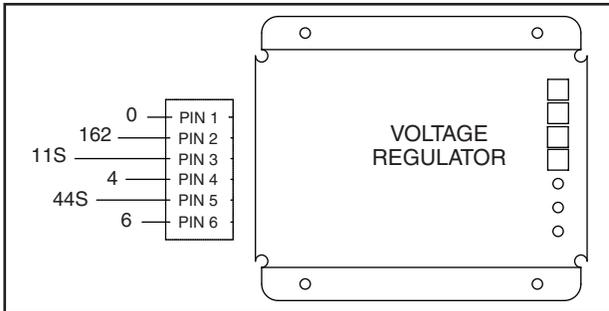

Figure 6-11. - Voltage Regulator Pin Connector Wire Number Locations
5. Disconnect Wire 2 from the Excitation Circuit Breaker and connect one meter test lead to it. Connect the other meter test lead to Wire 6 located in the six pin connector previously removed from the Voltage Regulator. Be careful not to damage the pin connectors with the test leads. See Figure 6-11.
11. Connect one meter test lead to Wire 11S located in the six pin connector previously removed from the Voltage Regulator. Connect the other meter test lead to Wire 44S located in the six pin connector previously removed from the Voltage Regulator. See Figure 6-11. Be careful not to damage the pin connectors with the test leads.
3. Connect one meter test lead to Wire 0 in the six pin connector previously removed from the Voltage Regulator. See Figure 6-11. Be careful not to damage the pin connectors with the test leads.
4. Connect one meter test lead to Wire 162 in the six pin connector previously removed from the Voltage Regulator. See Figure 6-11. Be careful not to damage the pin connectors with the test leads.